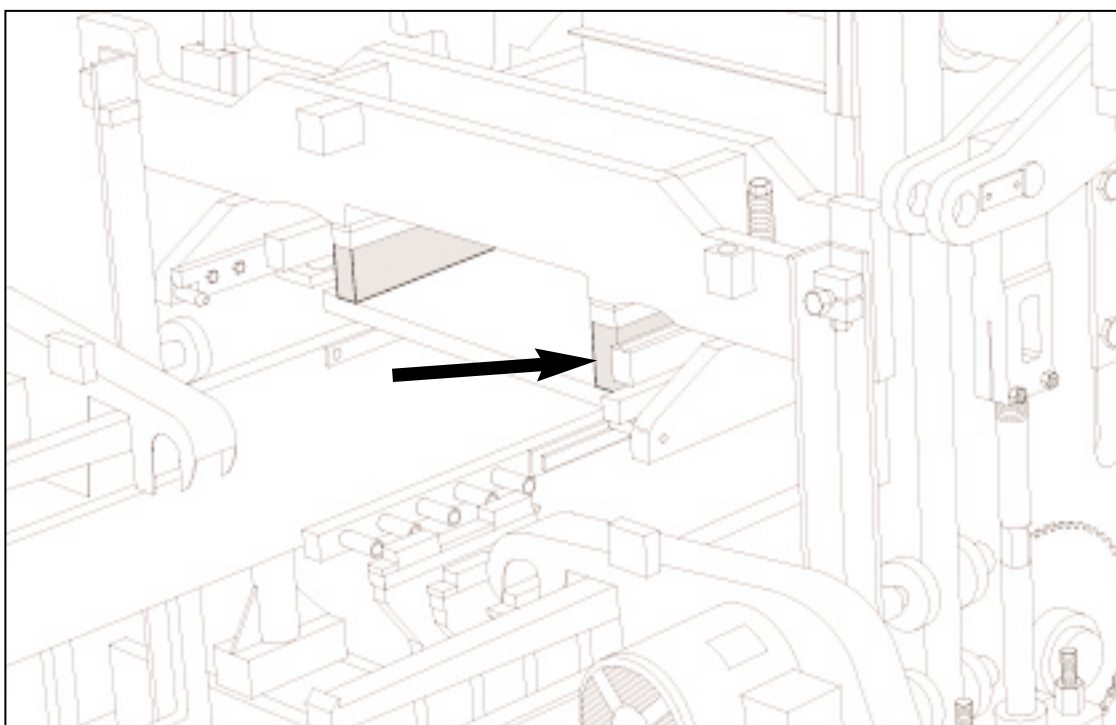

Figure 4.30 2 1/8" [54mm] BLOCKING UNDER STRIPPER HEAD FRAME.
- 4.2.8 The ULTRAPAC II is now ready for the installation of the mold assembly. Follow the directions for installing an attachment in section 5 of this manual. When installing the stripper head, insert **2 1/8" [54mm]** of blocking in addition to the **1 1/2" [38 mm]** blocks already affixed to the stripper head frame (figure 4.30). The above blocking assumes a stripper head height of **14 3/16" [360mm]** from the top of the head plate to the bottom of the shoes.